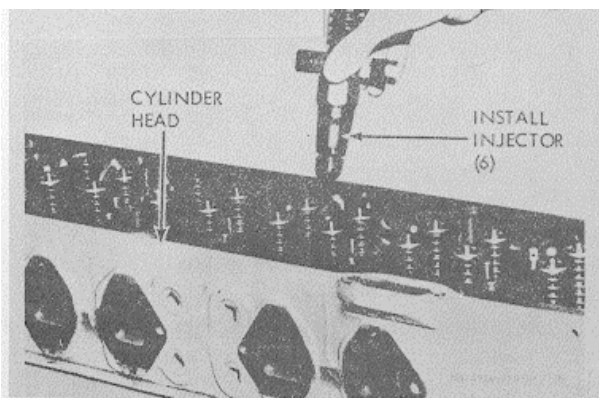

Figure 3-92. Installing injectors.
(2) Place all injectors in injector bores in cylinder head, figure 3-92.